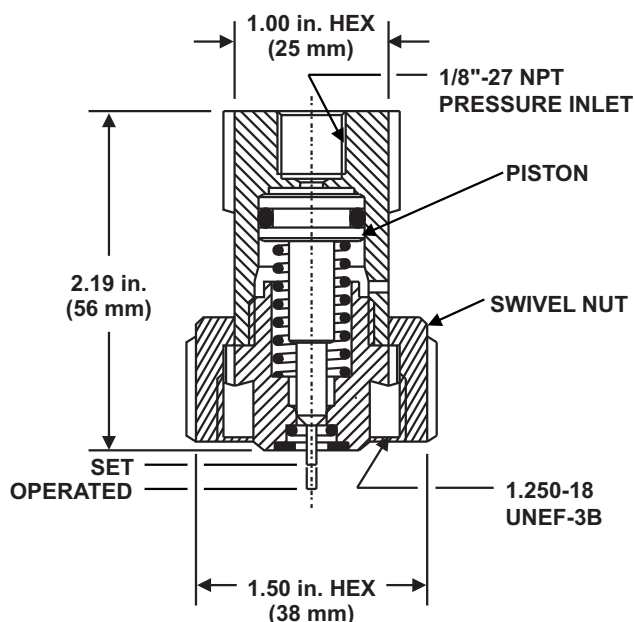

Figure 4-7. Pressure Operated Control Head
1. Remove the protection cap from the cylinder actuation port (see Figure 4-7).